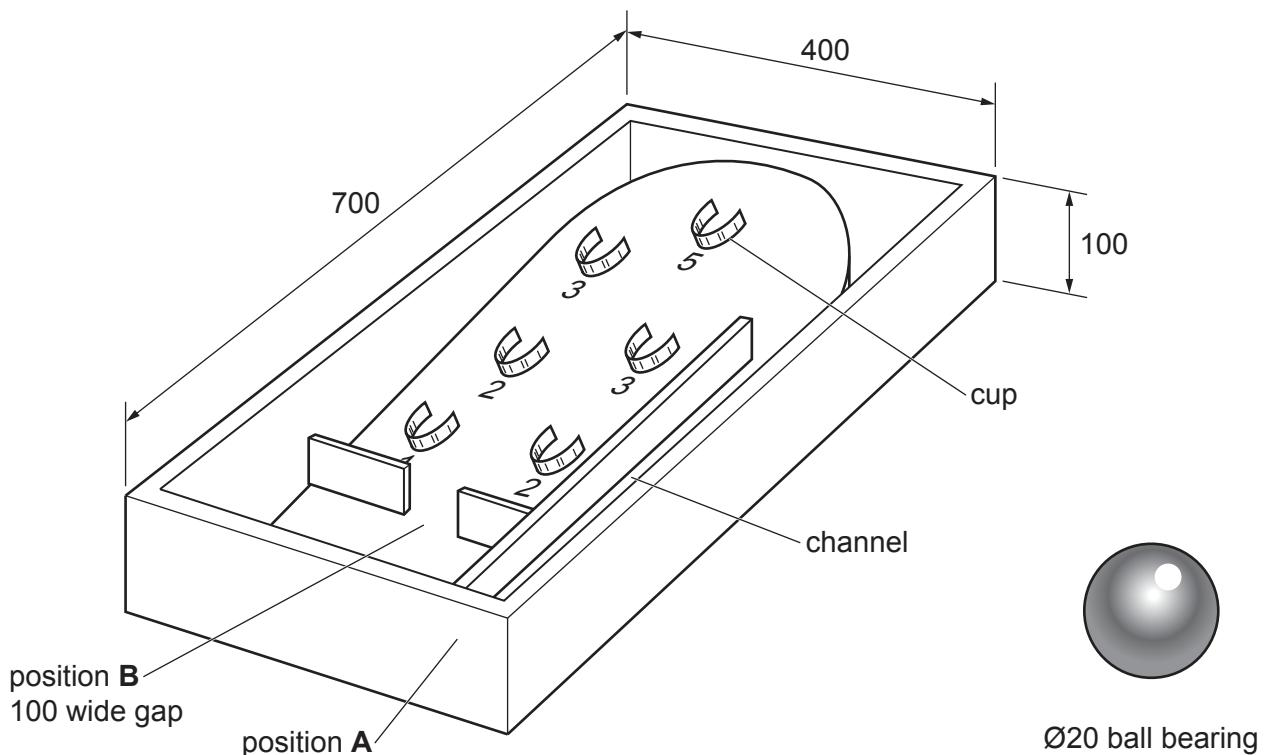

Fig. 9.1
- 9 Fig. 9.1 shows an incomplete design for a game.